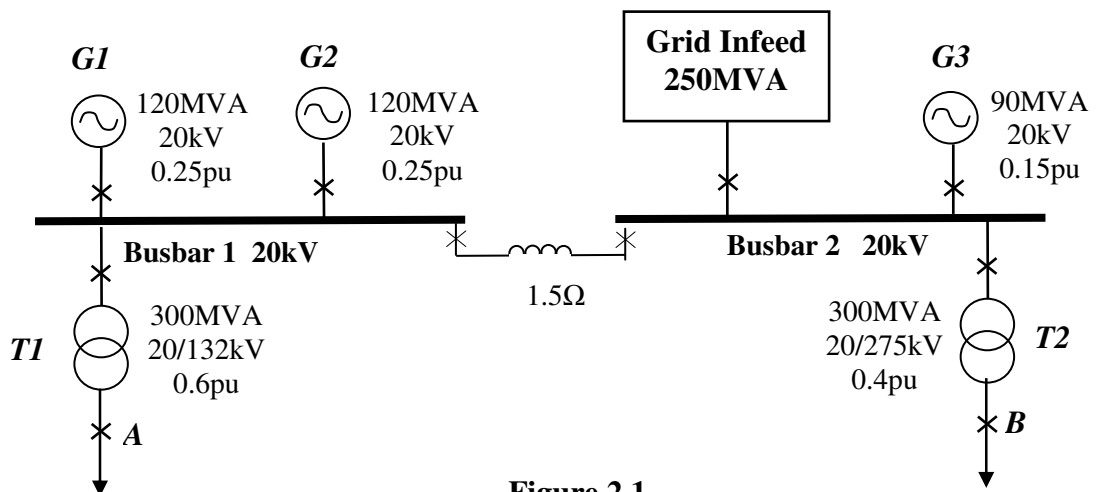

Figure 2.1
- b. Briefly outline three methods which can be used to limit fault levels in power systems. (3)
- c. Figure 2.1 shows a line diagram of a 3-phase power system consisting of two 20kV busbars linked by a fault limiting reactor of 1.5Ω . The Grid Infeed can supply 250MVA into a symmetrical 3-phase fault.